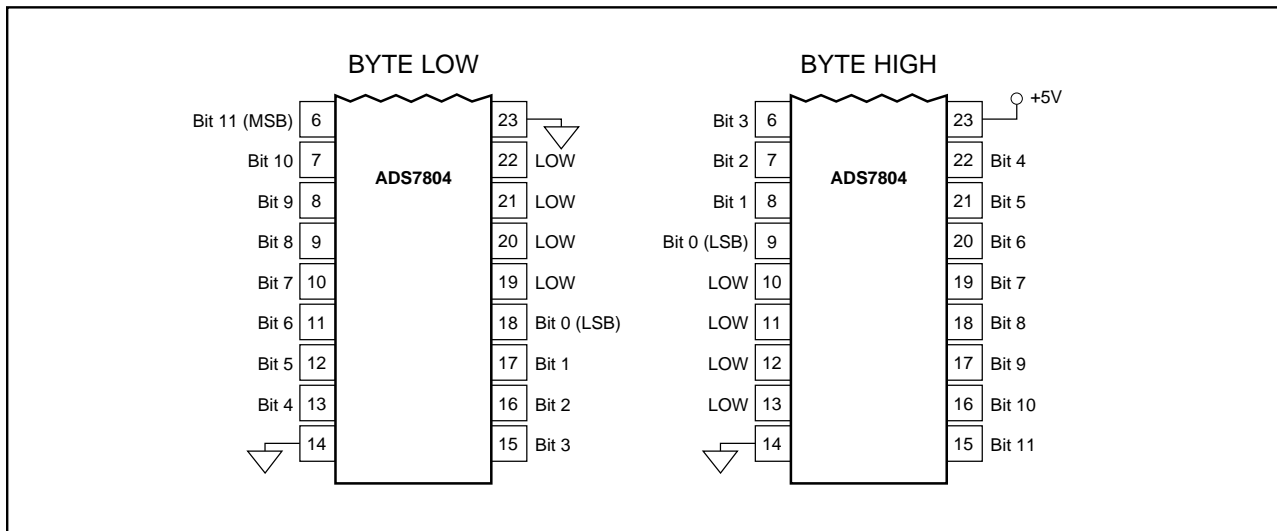

FIGURE 2. Bit Locations Relative to State of BYTE (pin 23).
NOTE: (1) See Figures 2 and 3 for constraints on data valid from conversion "n-1".
The ADS7804 outputs full or byte-reading parallel data in Binary Two's Complement data output format. The parallel output will be active when R/\overline{C} (pin 24) is HIGH and \overline{CS} (pin 25) is LOW. Any other combination of \overline{CS} and R/\overline{C} will tri-state the parallel output. Valid conversion data can be read in a full parallel, 12-Bit word or two 8-bit bytes on pins 6-13 and pins 15-22. BYTE (pin 23) can be toggled to read both bytes within one conversion cycle. Refer to Table III for ideal output codes and Figure 2 for bit locations relative to the state of BYTE.
8. CORNER LEADS (1, 14, 15, AND 28) MAY BE CONFIGURED AS SHOWN IN FIGURE 2.